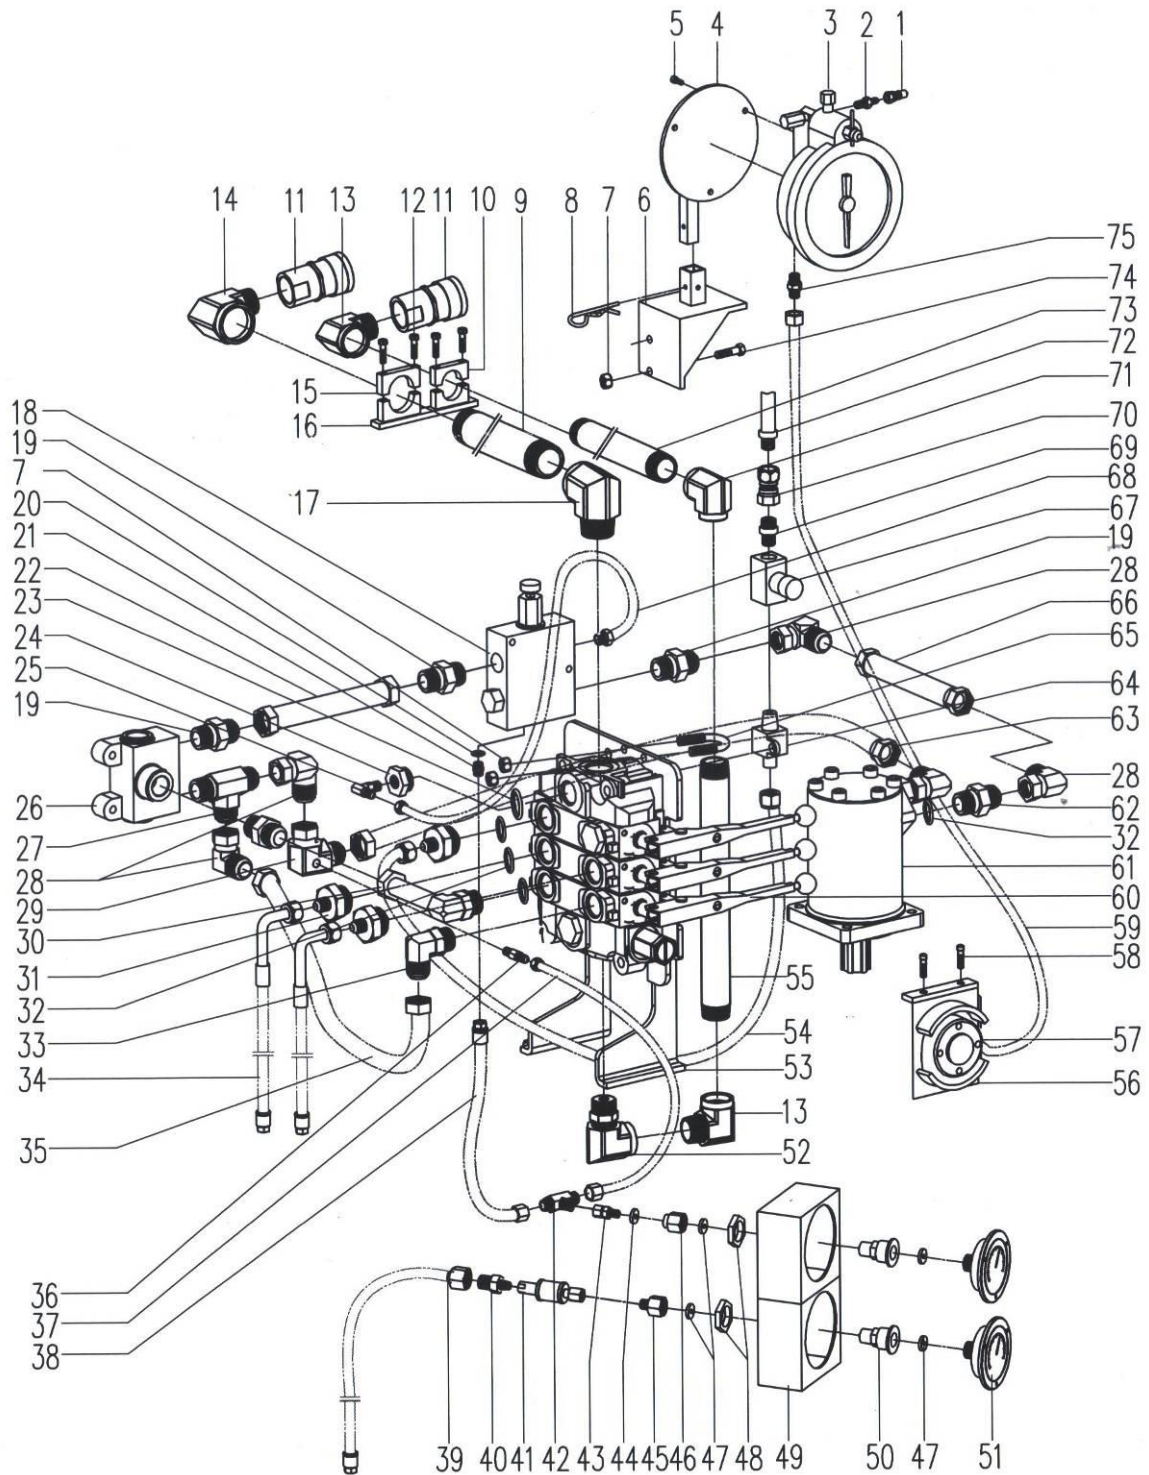

Fig. 7-9
9. Hydraulic pipeline (Fig 7-9, Table 9)